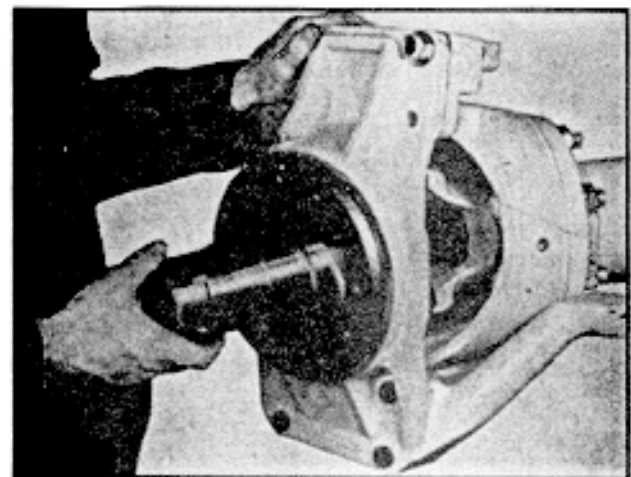

Fig. 19
2. Hold the spindle (See fig. 19), tap it with a soft hammer and it should separate from the spindle yoke.